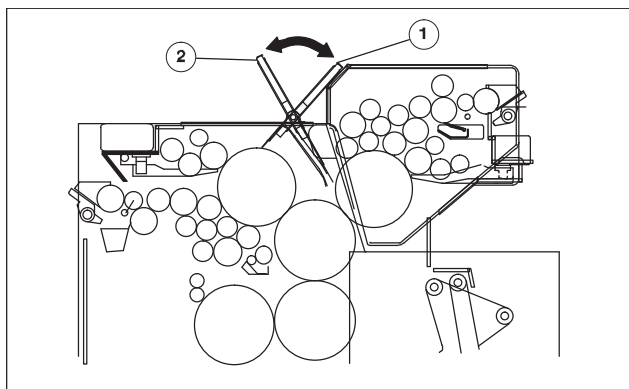

Fig. 7 Plate feed table
- Plate feed table towards feeder (Fig. 7/1) PU 1, towards delivery (Fig. 7/2) PU 2.